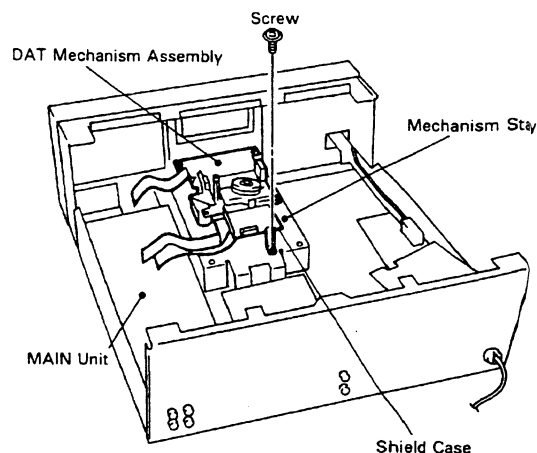

Fig. 2-3
3. Place the DAT mechanism assembly so onto the mechanism stay that the motor pulley at the lower surface is not in contact with anything, and fix the shield case of the DAT mechanism assembly with a screw. (Refer to Fig. 2-3)
2. DATメカASSY下面のモータープリーが他に触れないようにメカステイの上のせ、DATメカASSYのシールドケースをネジで固定する。(図2-3参照)